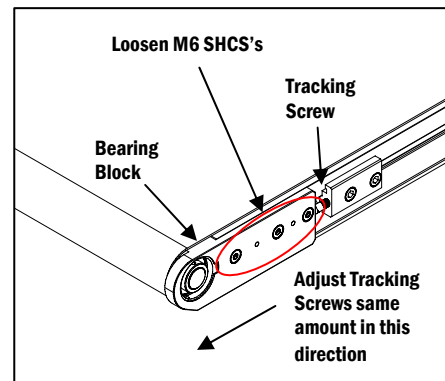

Figure 2
a. Loosen (do not remove) the six M6 Driver Assembly Screws in the Bearing Blocks (three on each side), about one-half turn (**Figure 2**).